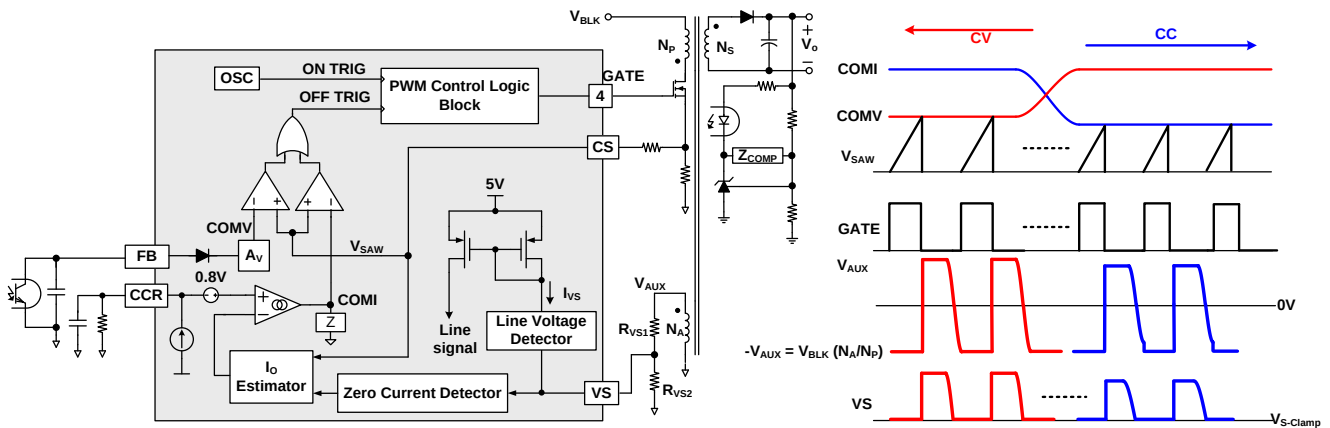

Figure 27 Simplified PWM Control Circuit and PWM Operation for CV/CC Regulation
The FAN604 indirectly senses the line voltage through the VS pin while the MOSFET is turned on, as illustrated in Figure 27. MOSFET turn-on period, the auxiliary winding voltage, V_{AUX} , is proportional to the input bulk capacitor voltage, V_{BLK} , due to the transformer coupling between the primary and auxiliary windings. During the MOSFET conduction time, the line voltage detector clamps the VS pin voltage to $V_{S-Clamp}$ (0 V), and then the current I_{VS} flowing out of VS pin is expressed as:
Figure 27 shows a simplified CV / CC PWM control circuit of the FAN604. The Constant Voltage (CV) regulation is implemented in the same manner as the conventional isolated power supply, where the output voltage is sensed using a voltage divider and compared with the internal reference of the shunt regulator to generate a compensation signal. The compensation signal is transferred to the primary side through an opto-coupler and scaled down by attenuator A_V to generate a COMV signal. This COMV signal is applied to the PWM comparator to determine the duty cycle.
These two control signals, COMV and COMI, are compared with an internal sawtooth waveform (V_{SAW}) by two PWM comparators to determine the duty cycle. Figure 27 illustrates the outputs of two comparators, combined with an OR gate, to determine the MOSFET turn-off instant. Either of COMV or COMI, the lower signal determines the duty cycle. During CV regulation, COMV determines the duty cycle while COMI is saturated to HIGH level. During CC regulation, COMI determines the duty cycle while COMV is saturated to HIGH level.